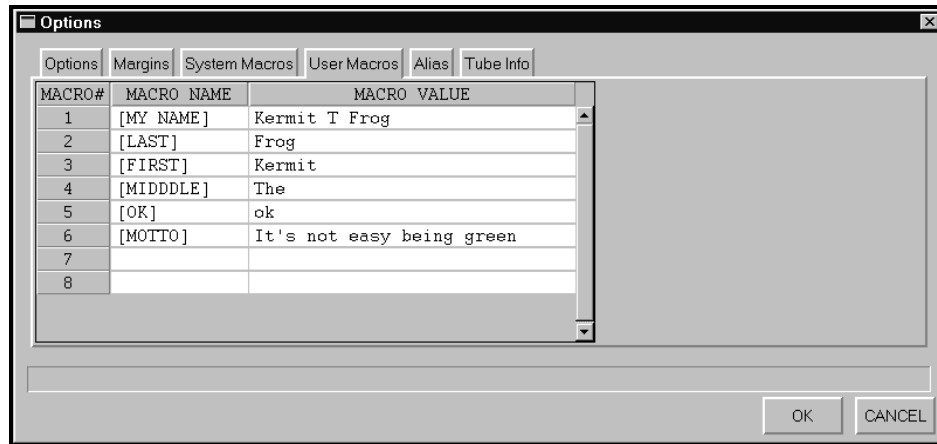

Figure 3-63. User Macros Tab
**User Macros** work like the system macros discussed above but are defined by the user and are not hardwired into the software. Figure 3-63 shows the **User Macros** tab.